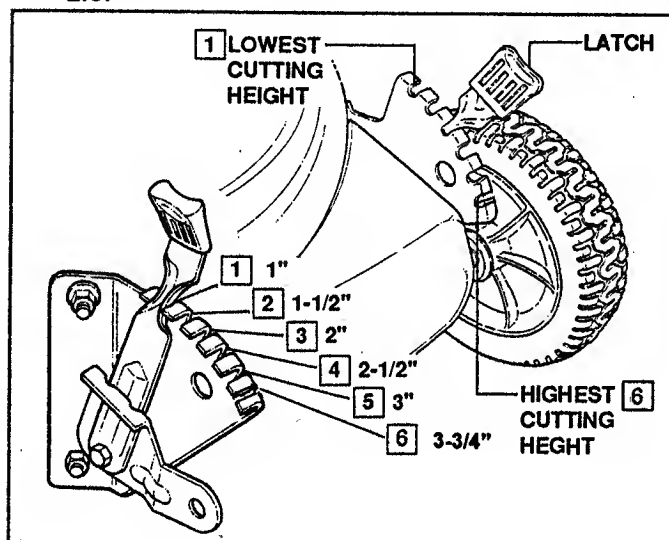

FIGURE 2.3
- A. Pull the height adjusting latch outward towards the wheel and move to desired notch. See Figure 2.3.